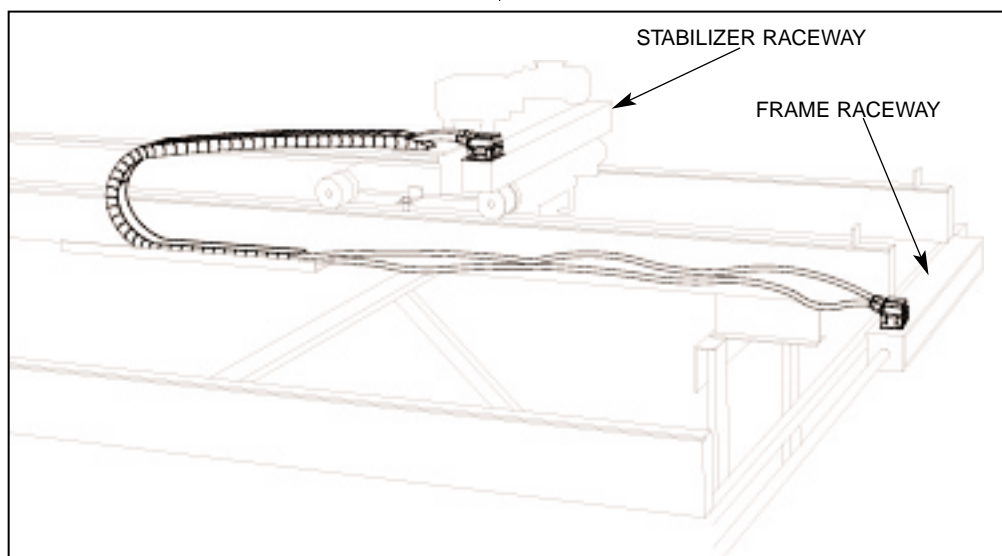

Figure 3.35 STABILIZER CAT TRACKS.
3.10.2.1 Install stabilizer cat tracks. One end of cat track must be connected to the stabilizer's electrical box; the other end must be connected to the raceway in front of frame (see figure 3.35).